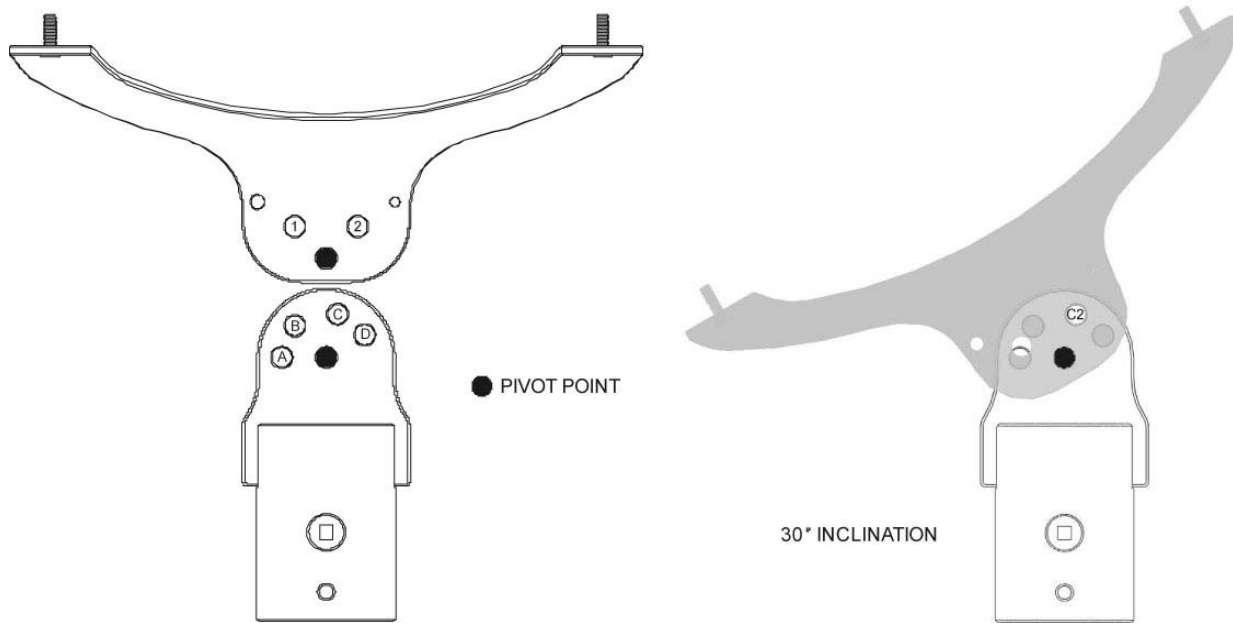
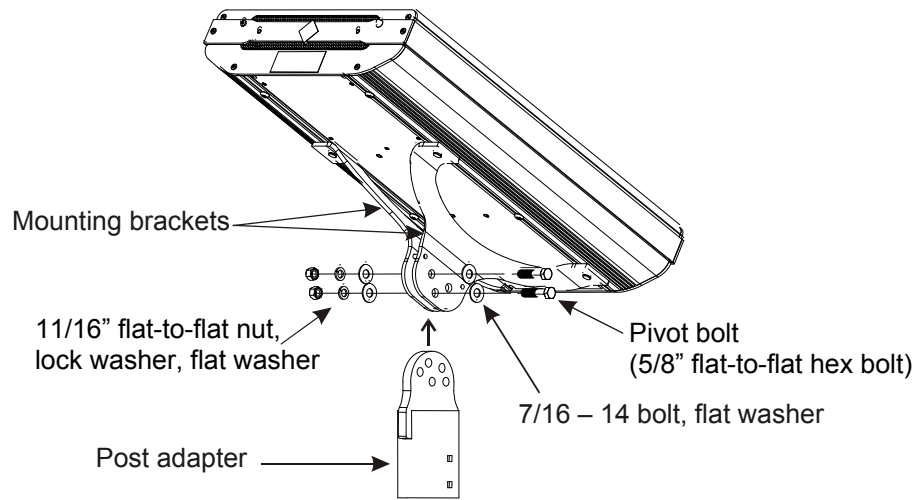

Figure 6-2: Bracket Inclination Settings
Figure 6-4: Bolting collar to pivoting mount brackets
The angle of inclination of the panel is dependent upon the latitude of the site. Refer to Table 1 & 2 and Figure 6-2 for inclination angles and settings. Note that the pivoting mount is adjustable from 0 → 60° in 15° increments for SE-10, SE-20, and SE-30 only. The SE-50 and SE-80 are not adjustable and are angled at 45°.
5. Use figure 6-2 to find the desired angle of inclination then bolt the post adapter to the recommended pivoting mount brackets; see Figure 6-4.